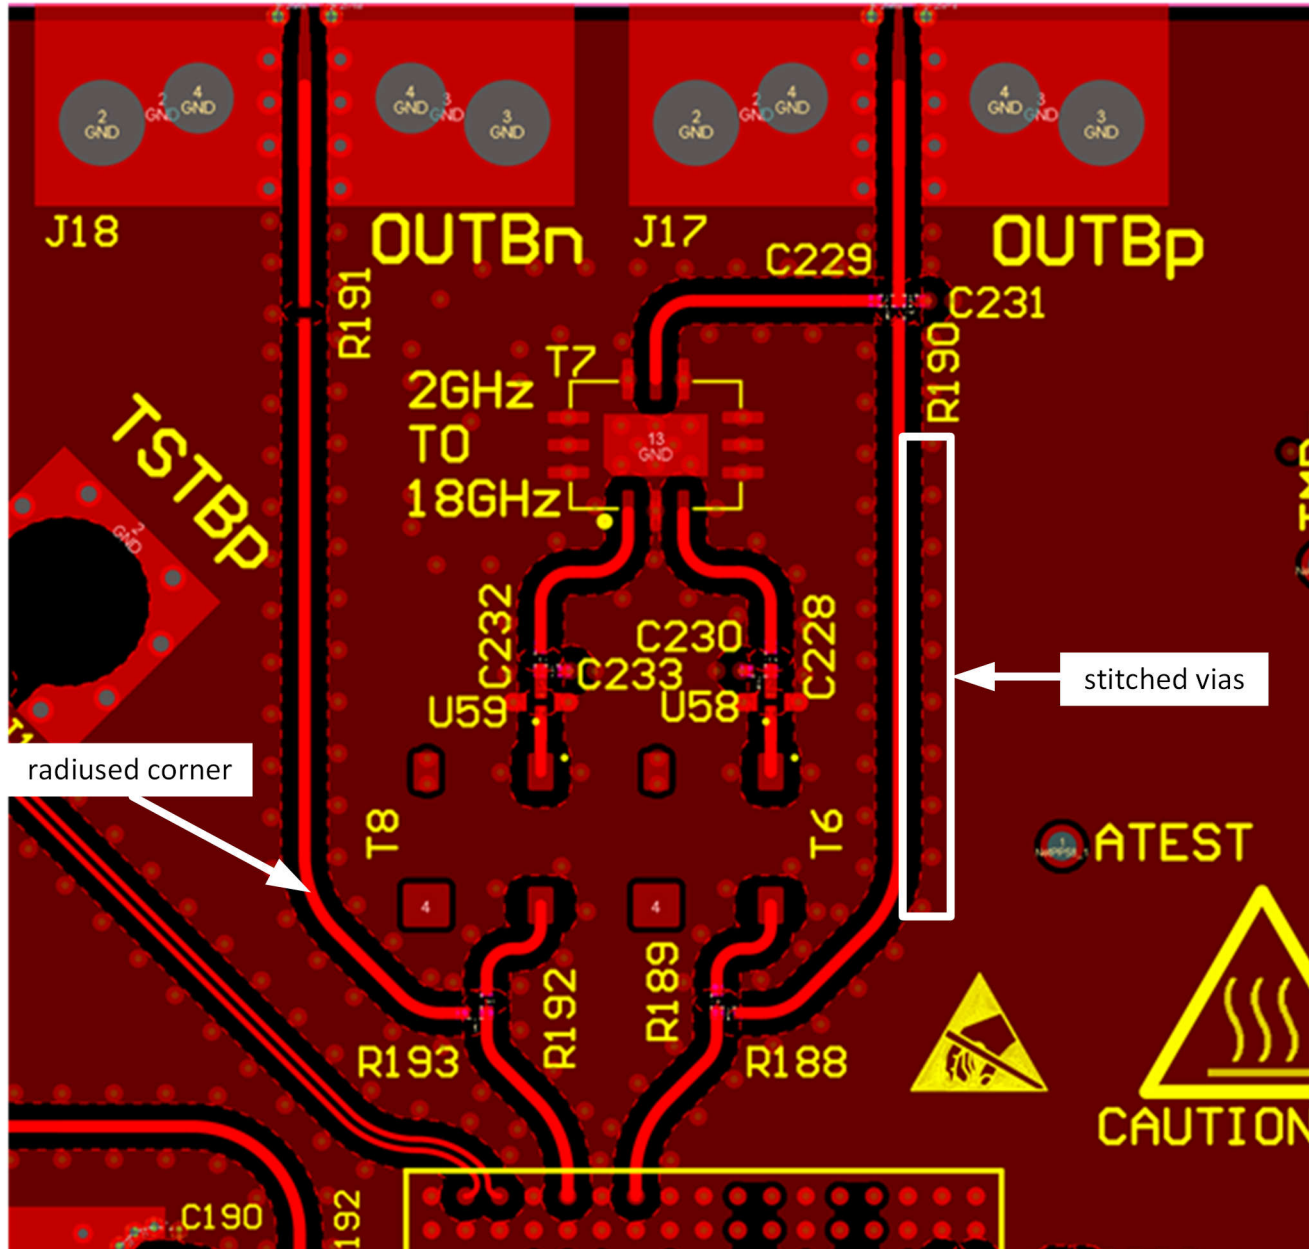

Figure 9-10. Radius Corner and Stitch Vias next to High_Speed Signal Trace
4. Use smoothly radiused corners and avoid 45- or 90-degree bends to reduce impedance mismatches on all high-speed inputs/outputs for both analog and digital signal traces. See Figure 9-10 as an example.
7. Provide symmetrically located ground tie stitching vias adjacent to any high-speed signal at an appropriate spacing as determined by the maximum frequency the trace transports ($\lambda/4$). See Figure 9-10 as an example.